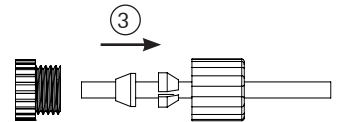

Fig. 19.2
3. Connect the 6 mm PTFE ferrule connector assembly as shown in the Fig.19.2 to the vacuum condenser. Push the 6 mm PTFE tube inside the vacuum condenser till it reaches the opening of the recovery tank.